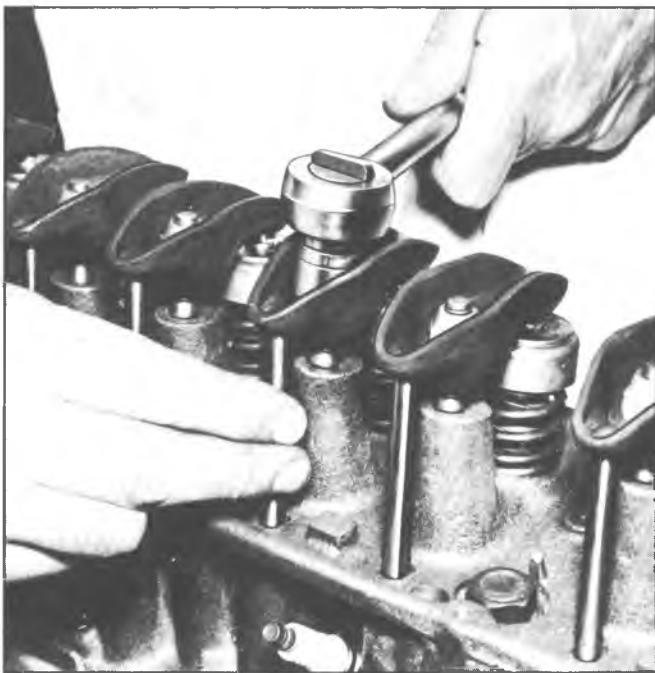

Fig. 21—Valve Adjustment (L6 Engine)
c. Back out adjusting nut until lash is felt at the push rod then turn in adjusting nut until all lash is removed. This can be determined by checking push rod end play while turning adjusting nut (fig. 21). When play has been removed, turn adjusting nut in one full additional turn (to center lifter plunger).